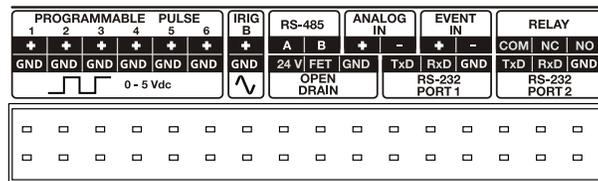
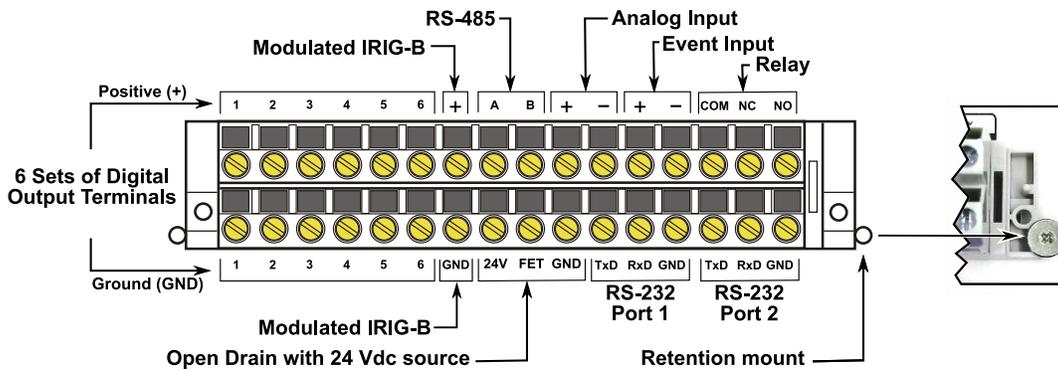

Figure 2-9 Main I/O Connector Block and Label
Figure 2-10 Main I/O Connector Block and Label
The Main I/O connector has a retaining feature. Figure 2-10 shows the proper installation of the retaining screw hold the connector in place.
For timing external events, or 1 PPS deviation, based on the GNSS-synchronized time, connect to the Event In terminals shown in Figure 2-10 and Figure 2-9. To configure the Event Input in the UI, see Section 5.3.22.
Figure 2.9 illustrates three contacts. From left to right they are common (COM), normally closed (NC), and normally open (NO). “Normally” refers to the relay condition when the clock is powered off. The information below gives the contact states for two conditions: (1) faulted (including power off) and (2) not faulted. For a list of faults and alarms, see Section 4.2.3.